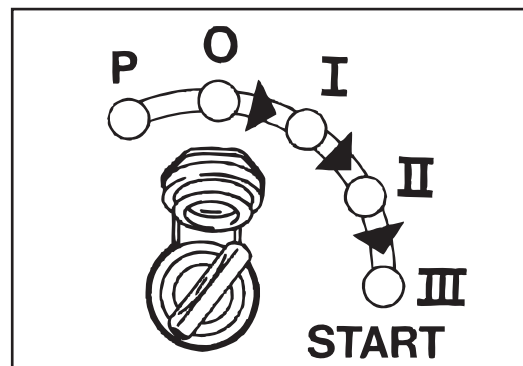

Fig. 37
- Turn the ignition key (Fig. 37) to position "I".